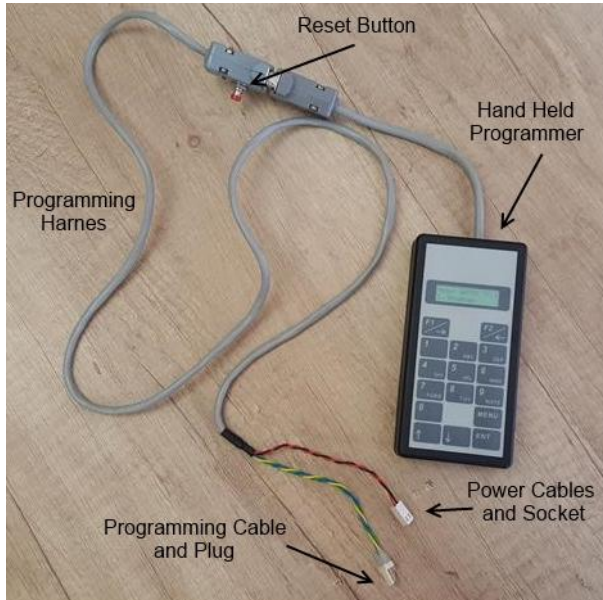

Figure 3
- Referring to Figure 3 and 4 above, the HHP will be equipped with an interfacing harness containing 5 wires namely Red (+), Black (-), White (Programming), Purple (Programming) and Green (Reset). The Red and Black cables are terminated in a socket connector while the Yellow, Blue and Green wires are terminated in a plug. The interfacing harness will also be equipped with a Red reset button mounted on the cover of the DB9 connector of the harness cable.